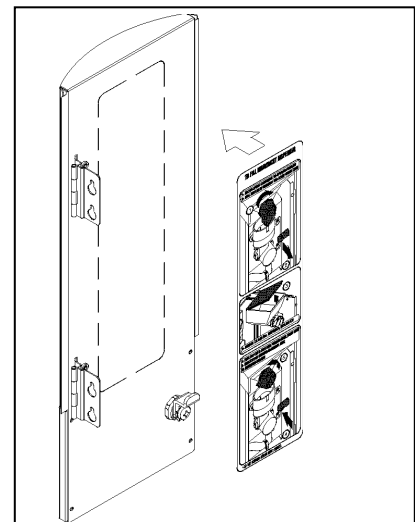

Figure 12 – Install APP instruction decal.
6. Install the refill instructions decal onto the inside of the APP door (Figure 12).